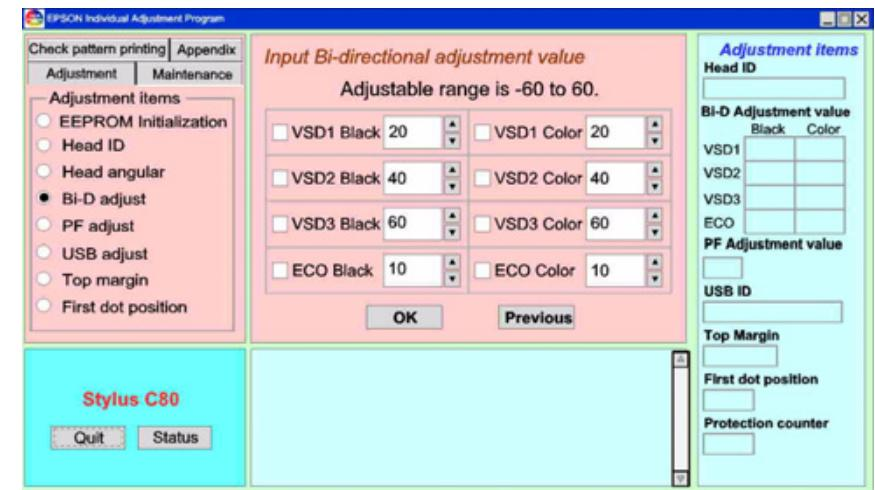

Figure 5-26. Bi-D Adjust Mode 1
**NOTE:** All parameters that Figure 5-26 indicates has actually readout from the EEPROM on the main board.